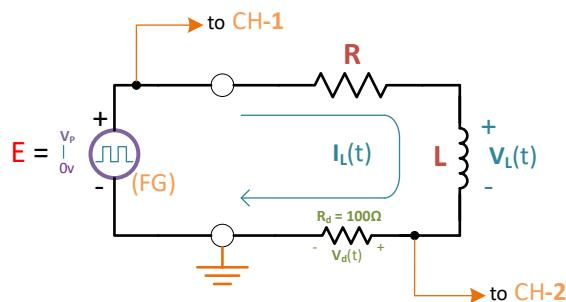

Figure 3.0b: R-L circuit with square-wave input source
**Note 2:** Because both vertical channels (**CH-1** & **CH-2**) of the oscilloscope need to have one input terminal grounded, all voltage measurements made by the oscilloscope use the ground as a reference and so no unreferenced “differential” voltage measurements (e.g. across  $R$  in the circuit) are possible using an oscilloscope. Hence, since a current cannot be measured directly with an oscilloscope, then to allow actual monitoring of the current  $I_L(t)$  using voltage measurement, a small “dummy” resistor,  $R_d$  is placed in series with the inductor,  $L$  (*in the return path to the ground connection*) as shown in **Figure 3.0b**. This arrangement generates a voltage proportional to  $I_L(t)$  that is monitored on the oscilloscope as  $V_d(t)$  on **CH-2**. It should be noted that as long as  $R_d$  value chosen is **much less** than  $R$ , the effect of the resistor  $R_d$  on the **R-L** circuit’s transient responses is negligible, and **can be ignored**.  $I_L(t)$  current values can be determined from the  $V_d(t)$  transient response displayed on **CH-2** using the expression  $I_L(t) = V_d(t)/R_d$ .
To construct and simulate the circuit of **Figure 3.0b** on MultiSIM, use the following procedures to set up the circuit for proper measurements: -
2. For each set of values provided for **R** and **L** in **Table 3.0**, construct the circuit of **Figure 3.0b** on MultiSIM, connecting the **FG** as the input source signal and using **CH-1** of the Oscilloscope to monitor this input signal. Simultaneously, display the voltage,  $V_d(t)$  on **CH-2** of the Oscilloscope. Use proper voltage and time scales on **CH-1** and **CH-2** inputs to adequately display the waveforms over two complete cycles on the scope screen. Capture and record the scope screen signals.
- Construct the circuit in **Figure 3.0b** on your breadboard using the first set of **R-L** values in **Table 3.0**, and set up the appropriate connections to the **FG** and Oscilloscope. Display simultaneously the **FG** source voltage waveform on **CH-1** of the Oscilloscope, and the voltage, **Vd(t)** across the “dummy” resistor, **Rd** [reflecting **IL(t)**] on **CH-2**. Set appropriate vertical voltage-scale for **CH-1** and **CH-2** respectively to ensure both waveforms are optimized for the Oscilloscope display.
**Table 5.0:** In-Lab experiment results of the circuit in Figure 3.0b
6. For the **R-L** circuit of **Figure 3.0b**, the Function Generator (**FG**) was also assumed to be ideal, meaning that its output (source) resistance,  $R_S = 0\Omega$ . In reality the **FG** has  $R_S = 50\Omega$  as noted above. In addition, (i) a ‘dummy’ resistor,  $R_d = 100\Omega$  was introduced in the circuit to facilitate inductor current measurement with the Oscilloscope, and (ii) this particular inductor itself has an inherent internal resistance,  $R_L = 162\Omega$ ; which all add to the overall series resistance of the circuit.